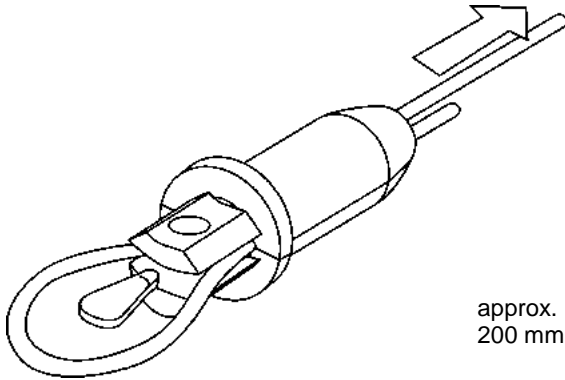

Figure 1 – Reeving Rope Through Socket
- a. Reeve the rope through the socket, install the wedge and pull tight, as shown in Figure 1.